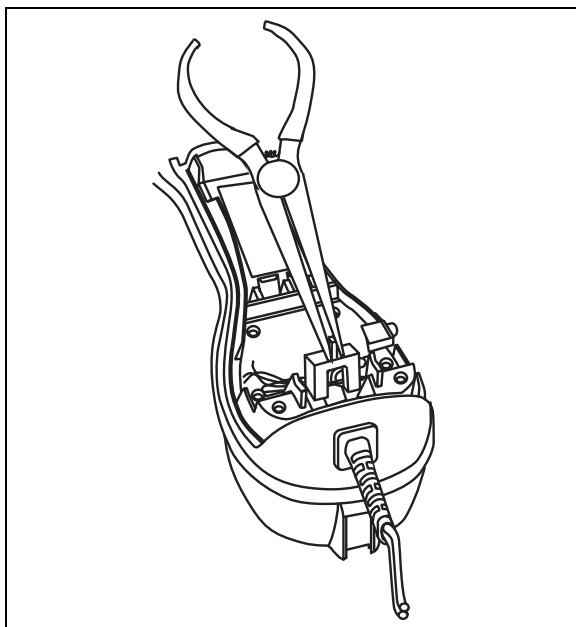

Figure 7. Removal/Installation of Plastic Clip
- 5 Using needle nose pliers, remove the plastic clip (see Figure 7) that holds the line cord strain relief in place.
- 4 Insert the plastic clip over the line cord strain relief at the base of the test set housing (see Figure 7) and press tightly into place. Inspect all work to ensure no pinched wires or areas where weather resistance and safe operation is affected.